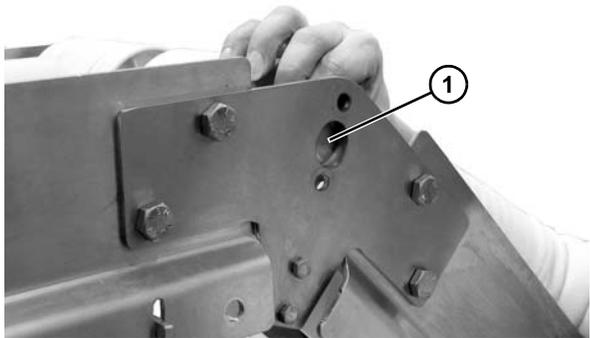
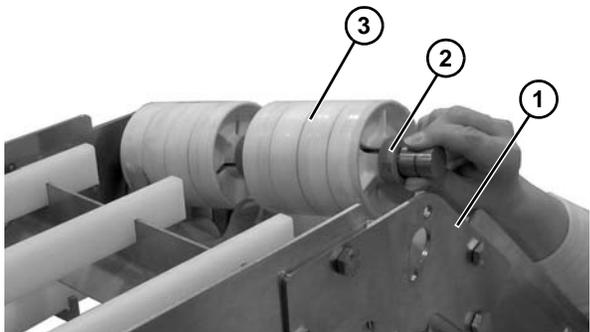

Figure 70
Figure 71
- Slide shaft (**Figure 70, item 1**) inwards to remove from knuckle frame (**Figure 71, item 1**).
Spacer (**Figure 71, item 2**) and pucks (**Figure 71, item 3**) are loose and can slide off the shaft.